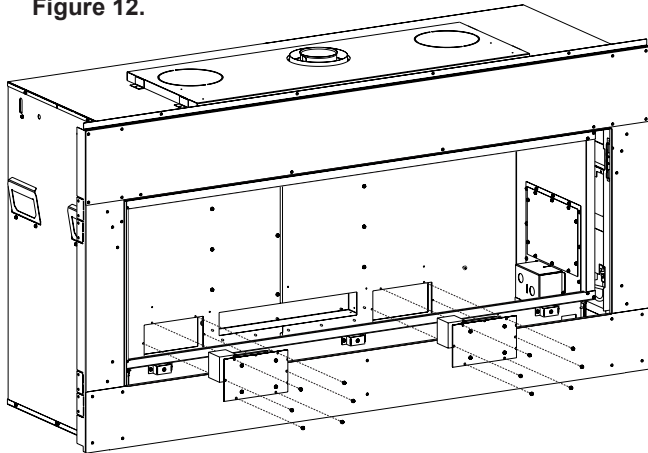

Figure 12
4. Remove Blower Brackets by taking out (6) screws each. See Figure 12.